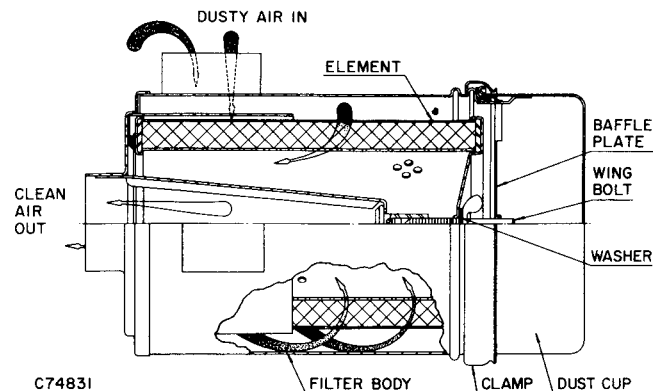

FIGURE 2-6. — HEAVY-DUTY AIR FILTER
**HEAVY-DUTY AIR FILTER** (Figure 2-6) — Extremely dusty locations require a heavy-duty two-stage dry type air filter. If a unit has been so equipped, service the filter as follows: